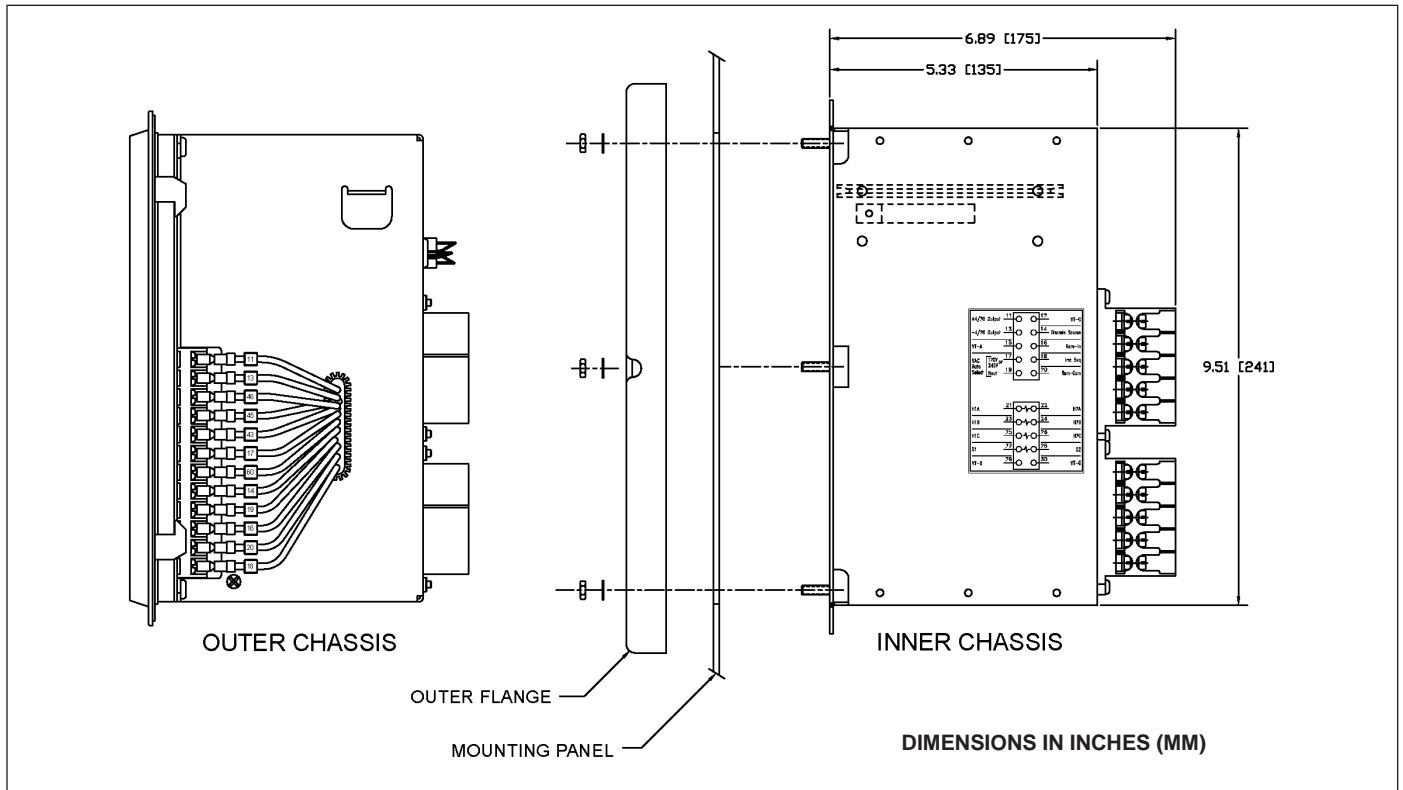

Figure 13.2 MP-4000 Drawout Panel Mounting.
Before mounting the Drawout Relay, check the contents of the box against the parts listed in Table 13.3 and shown in Figure 13.2.
2. Place the outer case flush against the backside of the panel so that the case studs project through their respective holes. Figure 13.2 shows the panel mounting diagram.